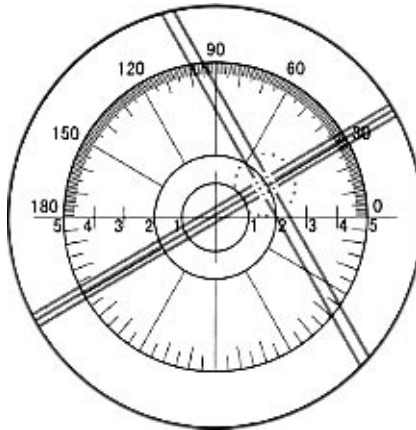

Fig. 17 (2Δ basal angle 30°)
- (1) In the range of 0 ~ 5 degrees of prism, the value is read directly on the eyepiece dividing plate.
- c. Prism degree and value of basal angle of prism lens are read on the eyepiece dividing plate (Fig. 17).